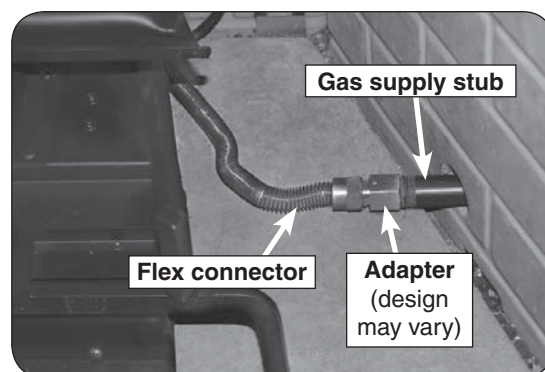

Fig. 10-2 Connect flex to gas supply
2. Locate the gas-supply stub inside the fireplace and remove the cap, if attached (reference Fig. 10-2).
4. Place the burner system in the fireplace. Center the burner from left to right in the fireplace. (Reference Fig. 10-2 for orientation.)
5. **Be sure gas to the fireplace is off.** Remove the large adapter connected to the flex connector. Attach the adapter to the gas-supply stub using a pipe compound resistant to all gasses. Tighten securely. Then attach the flex connector to the adapter. Tighten securely (See Fig. 10-2).